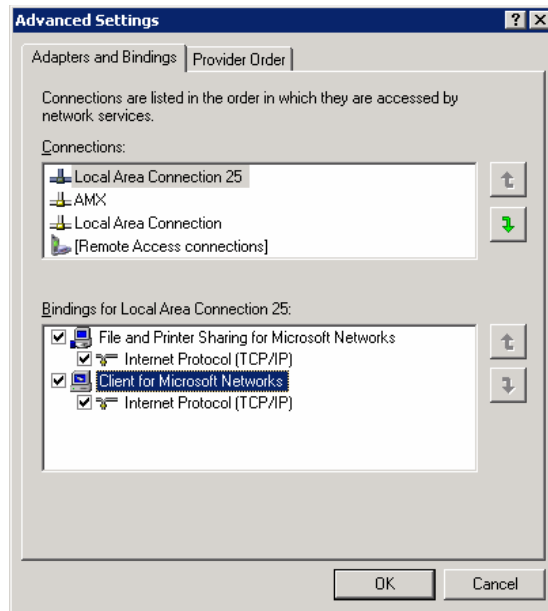
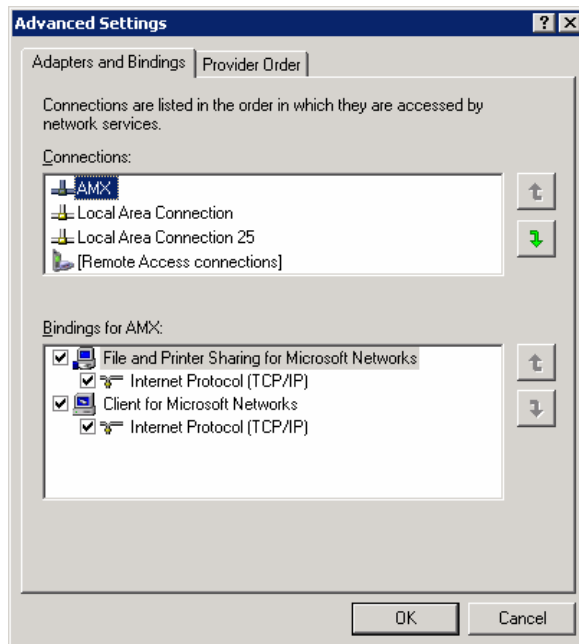

FIG. 71 Advanced Settings window
FIG. 72 Moving the Local Area Connection
- From the *Advanced* menu, select *Advanced Settings...* to open the *Advanced Settings* window (FIG. 71).
- Under the *Adapters And Bindings* tab, the user needs to make sure the Local Area Connection is not at the top of the *Connections* list. If it is at the top of the list (FIG. 71), select it and use the *down* arrow to the right of the list to move it to the bottom of the list (FIG. 72).